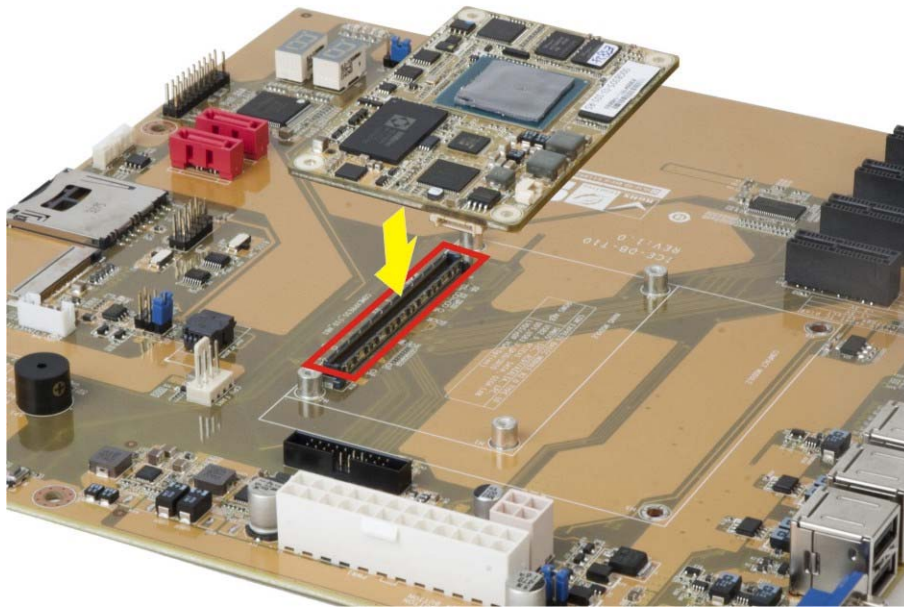

Figure 4-1: Connect the COM Express Connectors
- Step 1:** Align the two COM Express connector on the solder side of the ICE-BT-T10 with the corresponding connector on the baseboard. Gently push the COM Express module down to ensure the connectors are properly connected (Figure 4-1).